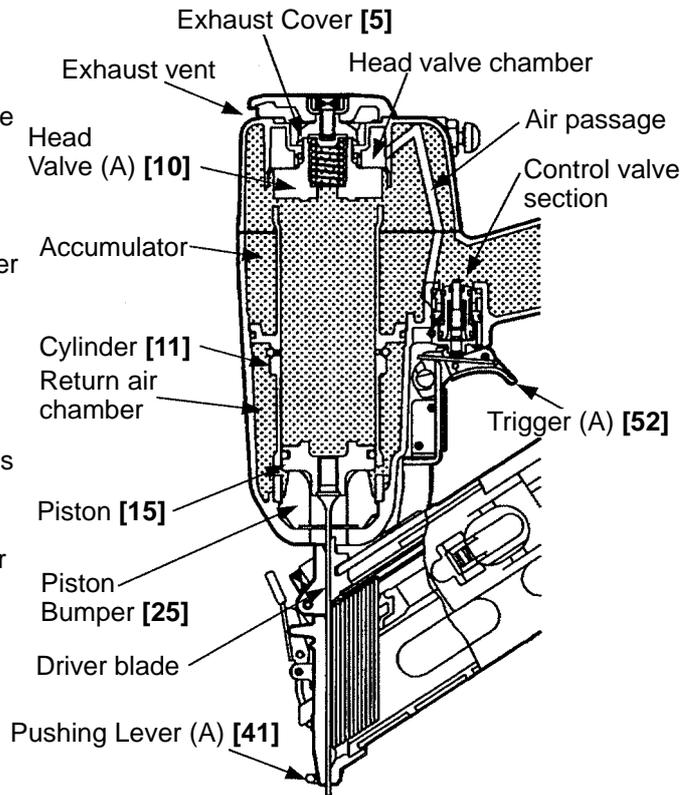
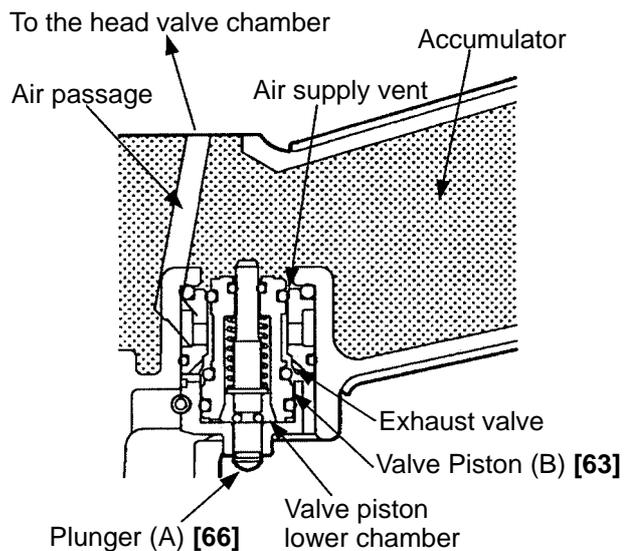

Fig. 7
Fig. 8 Control valve section
(3) During return: (Fig. 7 and Fig. 8)
- 1) Immediately after driving the first nail, the control valve should be as shown in Fig. 8.
Because of this, compressed air does not flow into the valve piston lower chamber, and Valve Piston (B) [63] remains in the lowered position. Accordingly, the Piston [15] remains in the lowered position as shown in Fig. 7.
- 1) Immediately after the first nail is driven, the control valve should be as shown in Fig. 8.